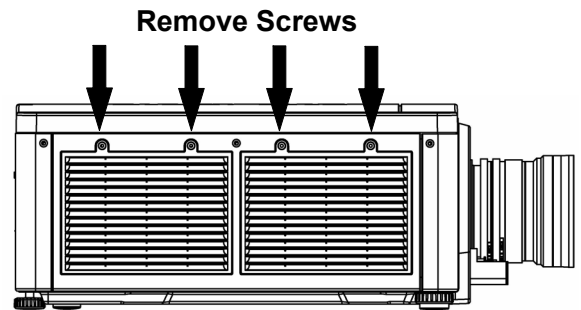

FIGURE 4-1 REPLACE FILTER
1. Unscrew the 2 captive screws at the top of each filter door (*Figure 4-1 Replace Filter*). Allow the door to rest down and away from the projector.
1. Unscrew the 2 captive screws at the top of each filter door (*Figure 4-1 Replace Filter*). Allow the door to rest down, away from the projector.